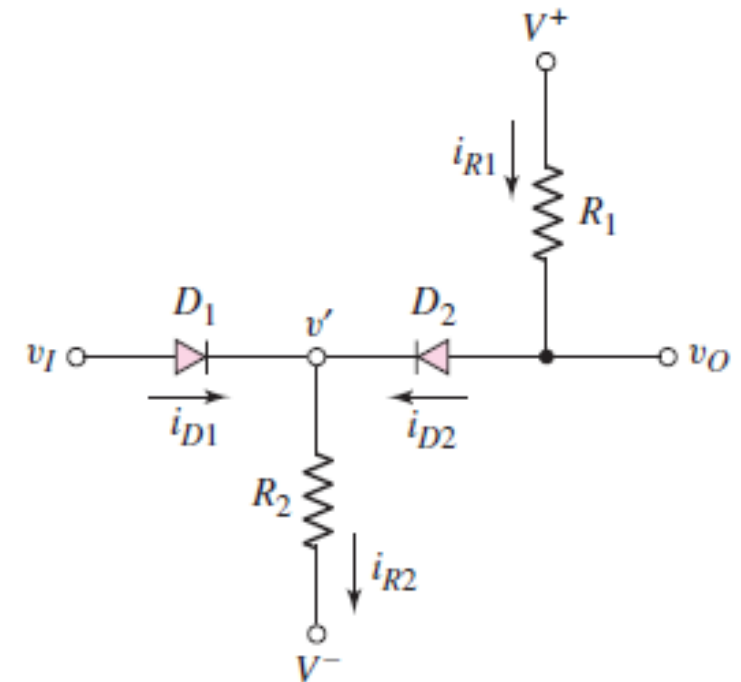

Figure 2.35
- For the circuit shown in Figure 2.35, assume that parameters are the same as those given in Example 2.9. Determine  $v_O$ ,  $i_{D1}$ ,  $i_{D2}$ , and  $i_{R2}$  for  $v_I = 0$ .